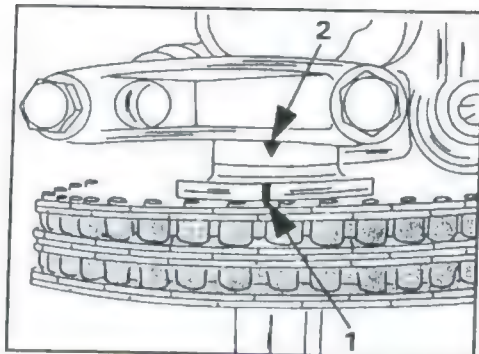

Fig. 1.16 - Alignment of the notch in the camshaft flange (1) and the lug on the No. 1 camshaft bearing cap (2) assures the T.D.C. position of the engine.
- Check the marking for top dead centre for the No. 1 cylinder in the camshaft (see Fig. 1.16). A notch is machined into the camshaft which should be in line with a mark machined into the cylinder head. The alignment can be seen by looking from above and comparing it with Fig. 1.16.